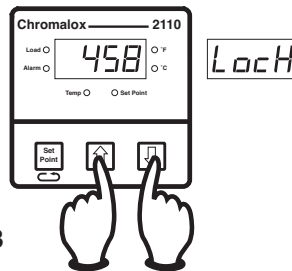

Figure 4.3
1. Press and hold the \uparrow and \downarrow buttons. After three seconds the display will begin to toggle between the current security code and **Loch** (LOCK). The Temp and Set Point LEDs will turn on. See Figure 4.3.